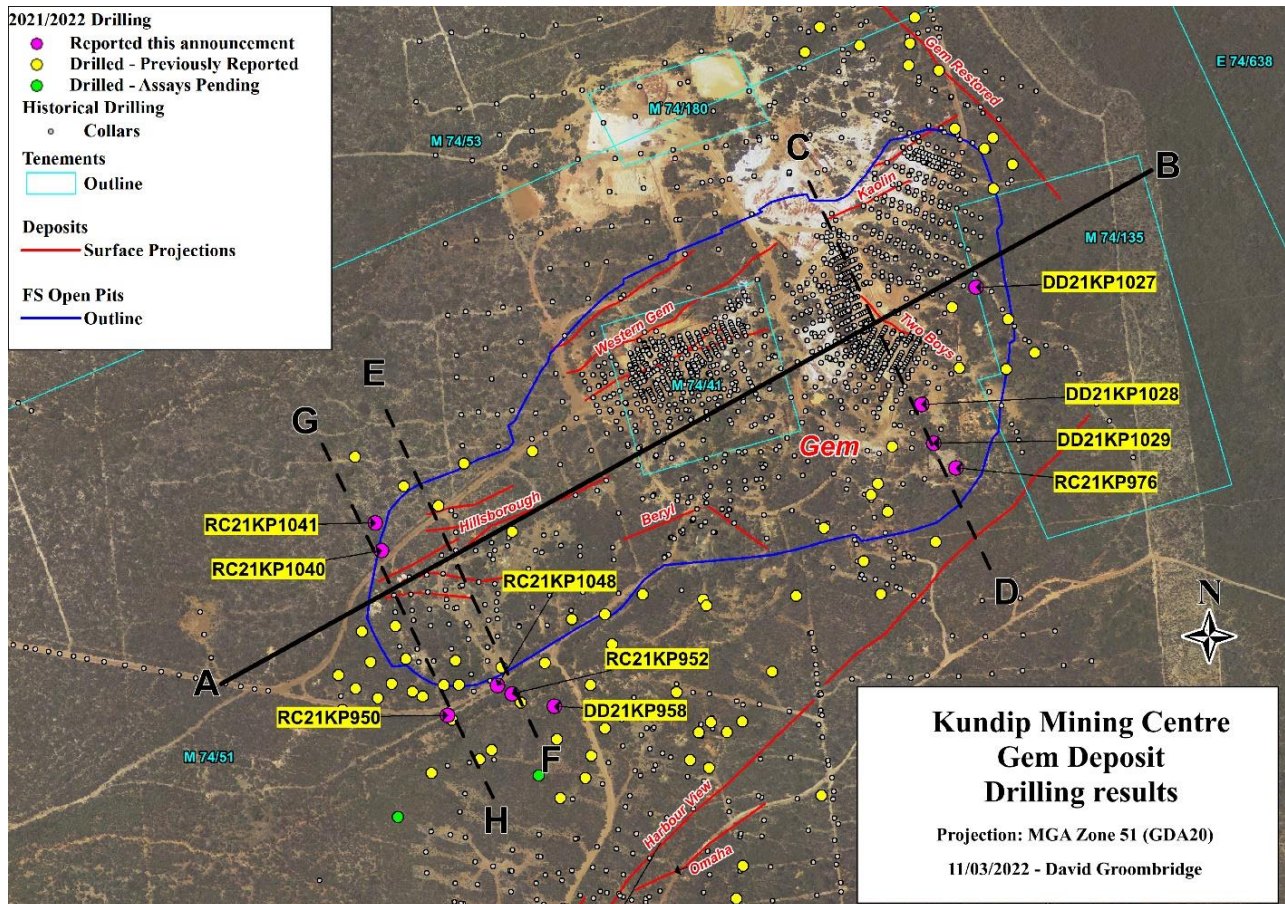

Figure 2: Plan view of Gem showing reported drillhole collar positions relative to FS Gem open pit outline.
An extensive line of historical small open pit and underground workings can be observed at Kaolin in the northeast then moving southwest through the Two Boys, Beryl, Western Gem and Hillsborough prospects (Figure 2) at the southwestern end of the broader Gem deposit (as it is currently defined by drilling). The 2020 Feasibility Study (FS)2 demonstrated a substantial pit would optimise at Gem (1,017m long, 526m wide and 150m deep). The Company views potential strike and depth extensions of the deposit as a compelling opportunity to add high margin ounces to the mine plan. All ongoing drilling in 2022 is targeting areas outside the current MRE with particular focus on down-plunge extensions to the southwest of Hillsborough and down-dip extensions to the south of Two Boys to delineate the high-grade structural controls to mineralisation in these areas (Figure 3).